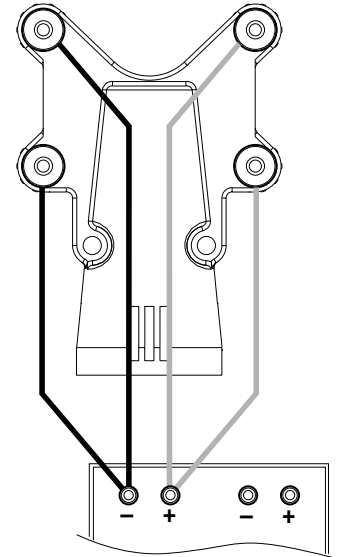

FIGURE 4
- 2) Next, connect the second cable, from the amplifier (same channel, secondary connectors) to the lower set of terminals on the Veritas™ speaker. See Figure 4.